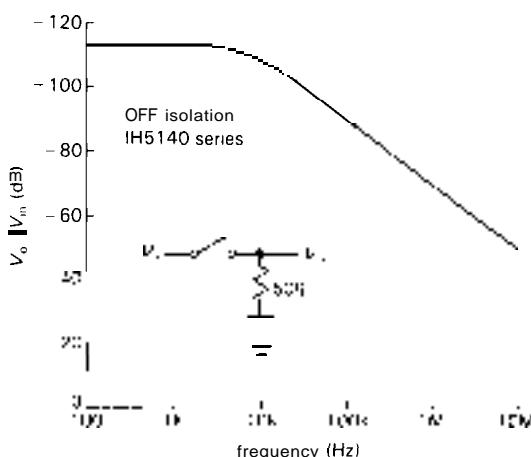

Figure 3.45
**$C_{DS}$ : Capacitance from input to output.** Capacitance from input to output causes signal coupling in an OFF switch, rising at high frequencies. Figure 3.45 shows the effect for the **IH5140** series. Note the use